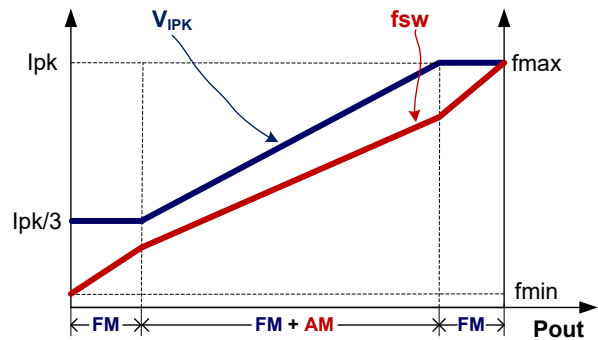

Fig.1
To meet the tight requirement of averaged system efficiency and no load power consumption, a hybrid of frequency modulation (FM) and amplitude modulation (AM) is adopted in FC1505X which is shown in the Fig 1.